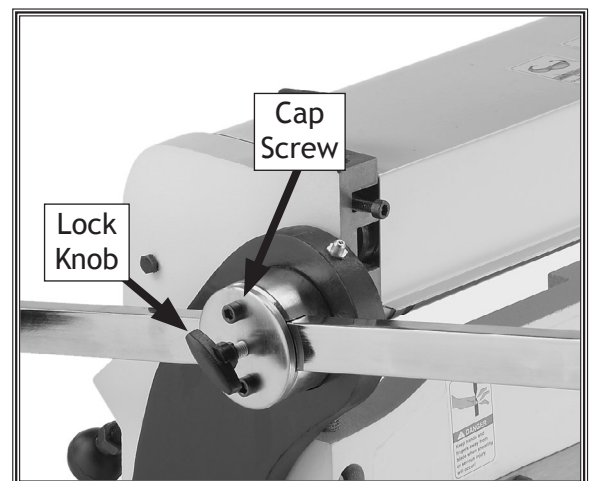

Figure 4. Installing the handle assembly.
1. Install the handle lock knob assembly over the handle with two pre-installed M6-1 x 16 cap screws (see **Figure 4**).